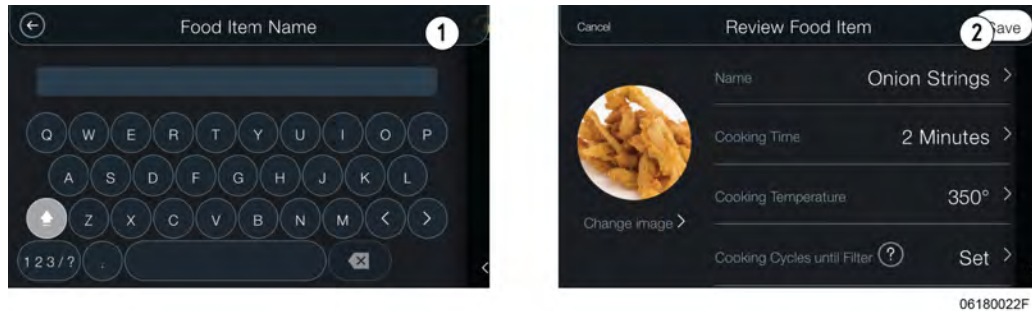

Figure 5-14
- 7. Food Item Name** - Use the touch screen keyboard (1) to type a name for your food item. Food item names may have a maximum of 40 characters, see Figure 5-14, page 49. Tap **Done** to continue.
8. **Review Food Item** - Review your settings for the food item, see (2) in Figure 5-14, page 49. If you would like to change a setting, tap the setting and make the change, otherwise tap **Save** to store to the food item and finish.